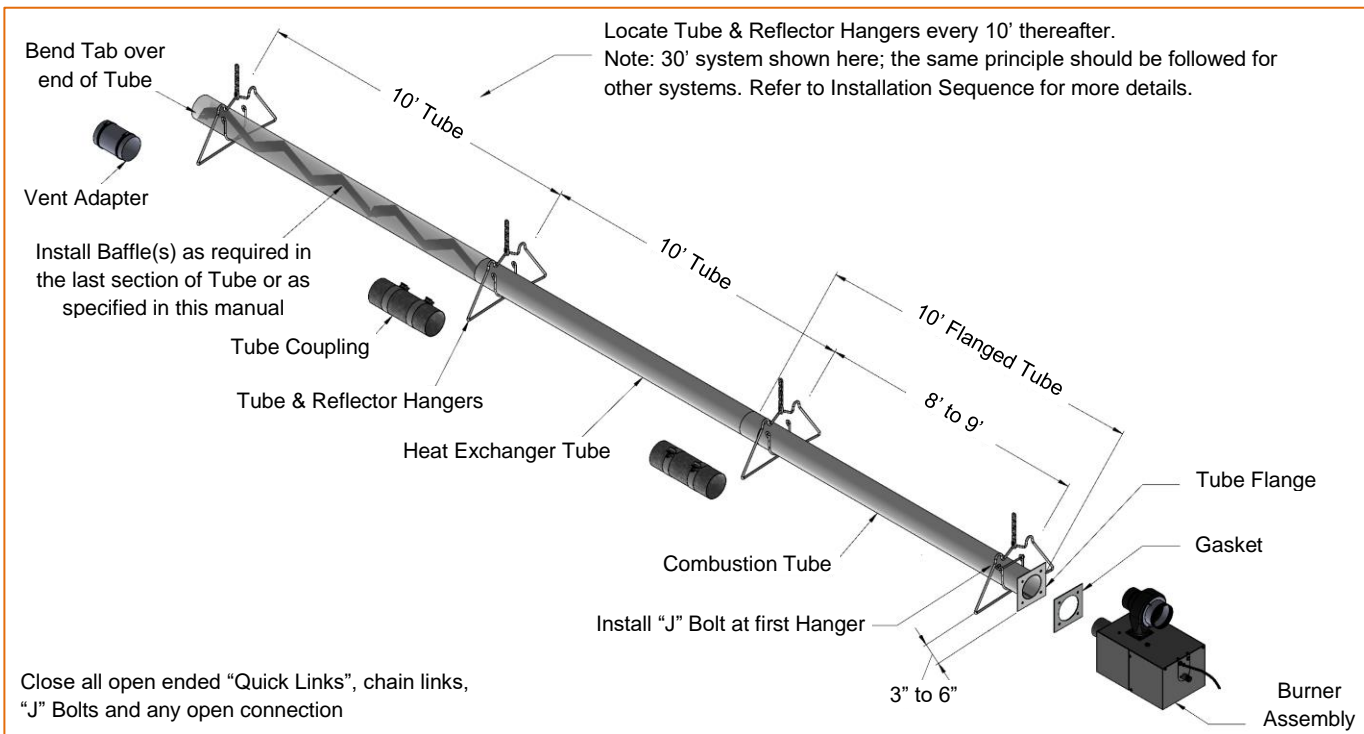

Figure 12: Overall view of Tubes and Reflector Hangers
- A general overall view of the tubes and reflector hangers is shown in Figure 12 below